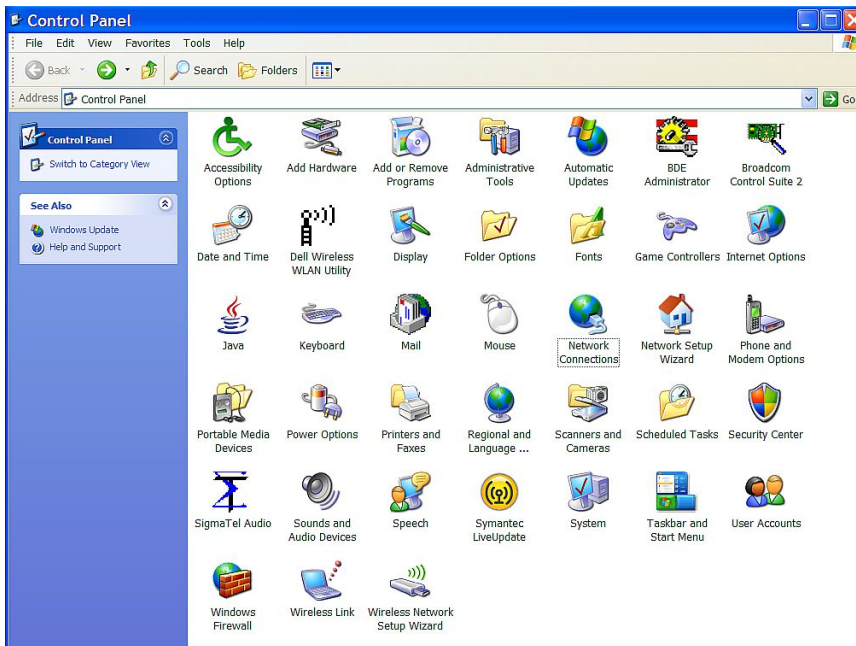

Figure 2.3b- Control Panel
Note: The control panel shown (Figure 2.3b) is in “Classic View.” If the control panel is in “Category View,” select the “Classic View” option before proceeding.
2. Double click on the icon labeled Network Connections. The Network Connections window will open (Figure 2.3b).